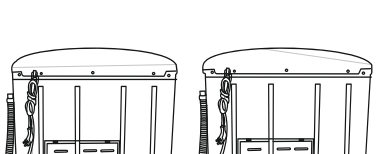

Figure 3 Rotate the fixing hook for 90°
- Rotate the drain hose fixing hook for 90° to take it out from the installation hole (As per Figure 3).
- Select the washing program according to the laundries. (Figure 3)